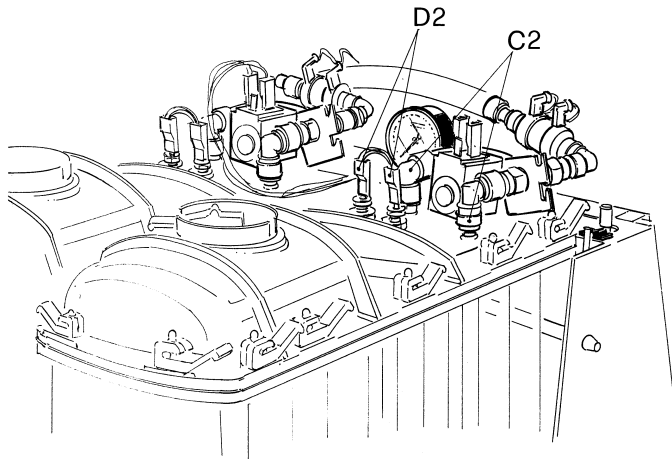
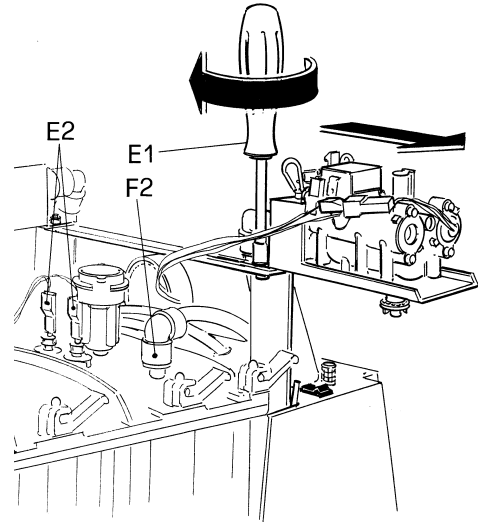
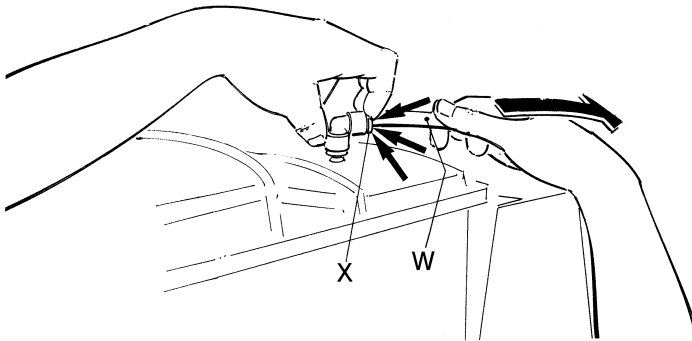

FIGURE 12
FIGURE 13
FIGURE 14
3. Extract the quick couplings (C2) / (F2) - (FIGURE 12, FIGURE 13, and FIGURE 14).
4. Disconnect the probe fastenings (D2) / (E2) - (FIGURE 12 and FIGURE 13).